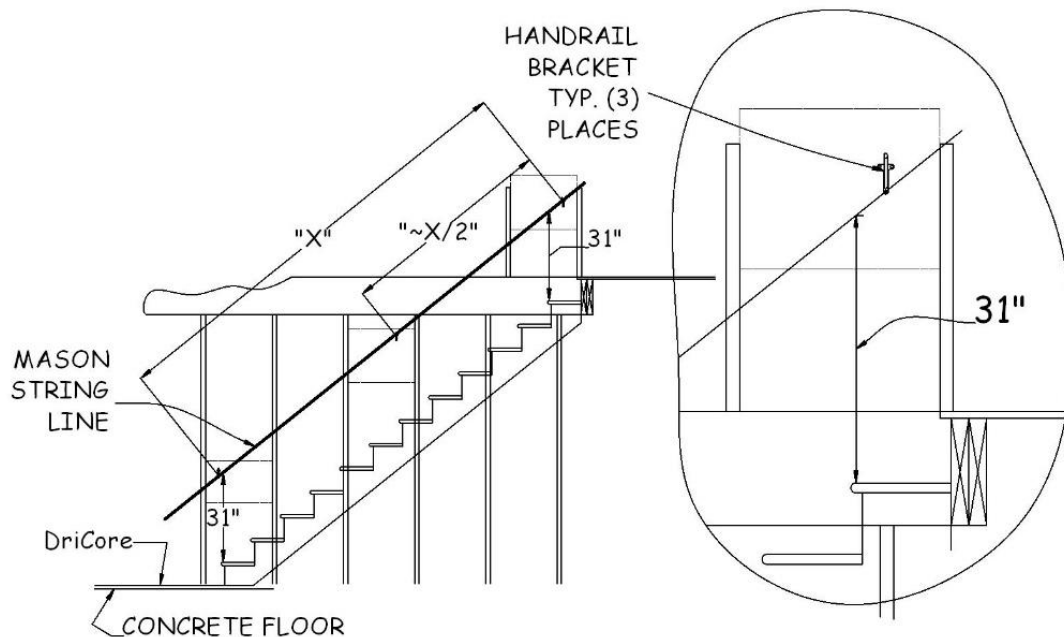

Figure 16-2. Handrail Bracket Installation.
5. Along this line, first mark the wall for locations of the top and bottom handrail brackets. Locate the top bracket 10-12" from the top end of the stairway wall and the bottom bracket 10-12" from the bottom end of the stairway wall, or from door trim if present (see Figure 16-2). Check for blocking or stud with an 8d or 2½" finish nail.
13. Set the skirtboard on saw horses with the unfinished side up (any tear out from the circular saw will then be on the unfinished side). Lay the template on the board and orient it to establish the proper cut orientation at the top of the skirtboard. If the top angle of the template is correct, use it to mark for cutting. If not, use the adjustable bevel angle established above. This will establish Point 1 (see Figure 16-2).